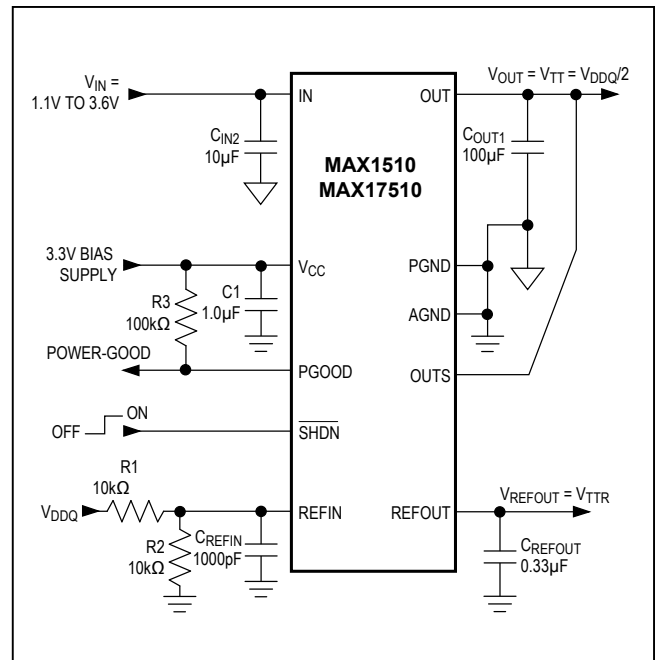

Figure 1. Standard Application Circuit
(V_{IN} = 1.8V, V_{CC} = 3.3V, V_{REFIN} = V_{O_{UTS}} = 1.25V, $\overline{\text{SHDN}}$ = V_{CC}, circuit of Figure 1, T_J = T_A = -40°C to +85°C for MAX1510ETB, T_J = T_A = -40°C to +125°C for MAX17510ATB, unless otherwise noted. Typical values are at T_A = +25°C.) (Note 1)
($V_{IN} = 1.8V$, $V_{CC} = 3.3V$, $V_{REFIN} = V_{OUTS} = 1.25V$, $\overline{SHDN} = V_{CC}$, circuit of Figure 1, $T_J = T_A = -40^\circ C$ to $+85^\circ C$ for MAX1510ETB, $T_J = T_A = -40^\circ C$ to $+125^\circ C$ for MAX17510ATB, unless otherwise noted. Typical values are at $T_A = +25^\circ C$.) (Note 1)
(Circuit of Figure 1. $T_A = +25^\circ\text{C}$, unless otherwise noted.)
The MAX1510/MAX17510 are low-voltage, low-dropout DDR termination linear regulators with an external bias supply input and a buffered reference output (see Figures 1 and 2). V_{CC} is powered by a 2.7V to 3.6V supply that is commonly available in laptop and desktop computers. The 3.3V bias supply drives the gate of the internal pass transistor, while a lower voltage input at the drain of the transistor (IN) is regulated to provide V_{OUT}. By using separate bias and power inputs, the MAX1510/MAX17510 can drive an n-channel high-side MOSFET and use a lower input voltage to provide better efficiency.
The MAX1510/MAX17510 regulate OUTS to the voltage set at REFIN, making the devices ideal for memory applications where the termination supply must track the supply voltage. Typically, REFIN is set by an external resistive voltage-divider connected to the memory supply (V_{DDQ}) as shown in Figure 1. The maximum output voltage of 1.5V is limited by the gate-drive voltage of the internal n-channel power transistor.